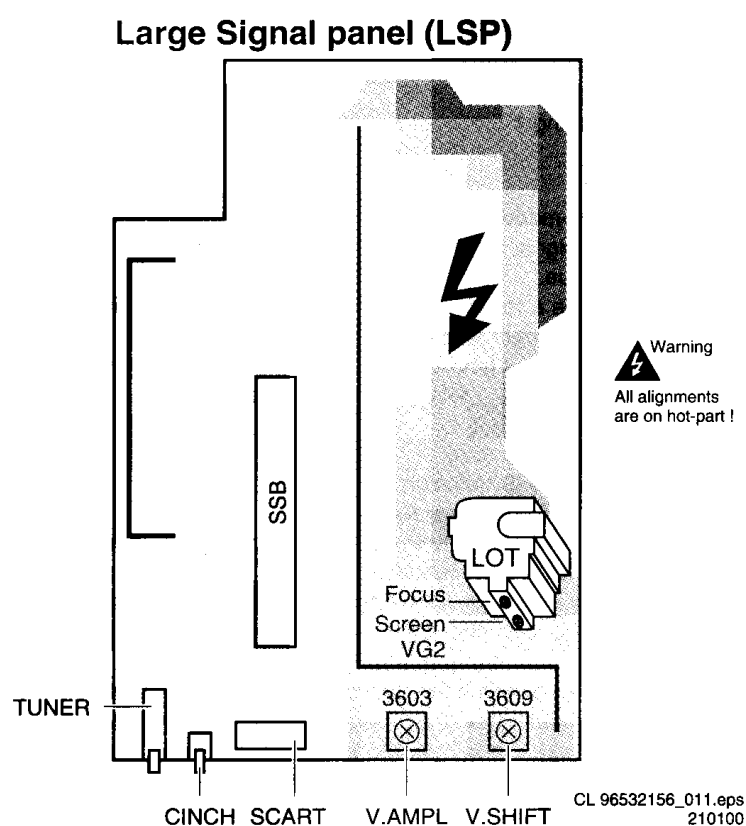

Figure 8-1
2. Adjust the Focus potentiometer (upper potmeter, see figure 8-1) for an overall optimum focusing of the picture.
4. Adjust the Vg2 potentiometer (lower potmeter, see figure 8-1) so that the measuring pulse with the highest noted level is on $160 \pm 3\text{ V}_{DC}$ level.
2. Align the vertical amplitude with R3603 (see Fig. 8-1) so that the complete test pattern is visible.
2. Align the vertical centering with R3609 (see Fig. 8-1) so that the test pattern is located vertically in the middle.